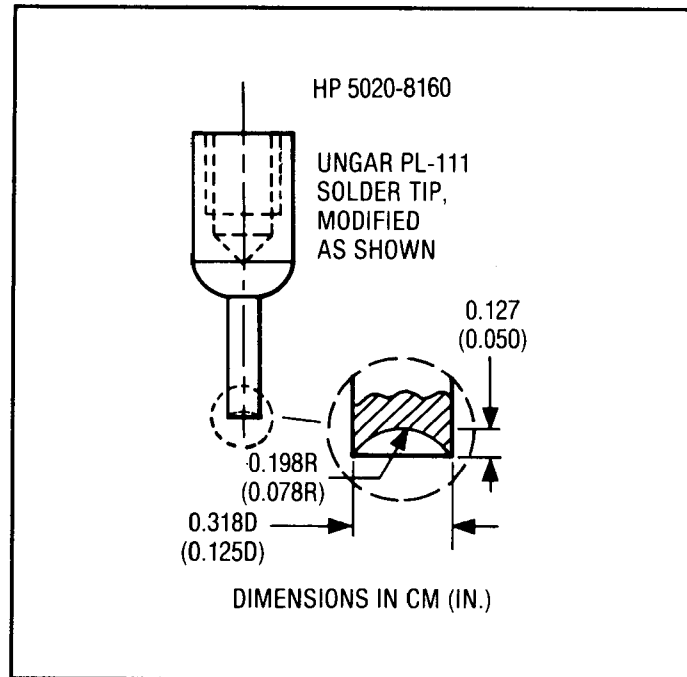

Figure 8-3. Heat Staking Tip
5. To ensure proper switch assembly, verify that the switch is pushed firmly against the circuit board and, with the hot (440°C or 825°F) staking tip (see figure 8-3) push down on each of the two posts on the switch. Each post should take about one second to stake. With the proper cycle, the post should turn a darker color